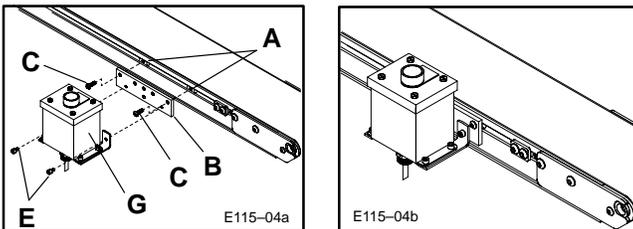

Figure 4: Jog Vertical Mounting to Conveyor T-slot
2. Select the desired location and mount the Jog Kit either in the conveyor T-slot or on any one of the aluminum or steel Support Stand Vertical Legs (Figures 4 through 9).
- b. Select the desired location and attach the unit to the conveyor T-slot in the manner shown in Figure 4. Attach the Pushbutton Box assembly with Mounting Brackets (in the same way it was packaged, when shipped) to the two Single Drop-in T-bars, using the M6 x 16 mm Button Head Cap Screws (C). Tighten Screws with 4 mm Hex Key Wrench (K) provided.